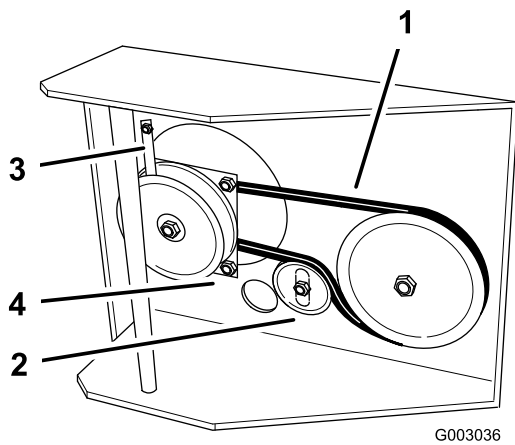

Figure 45
7. Unhook the clutch retainer from the clutch and remove the retainer (Figure 45).
8. Loosen the idler mounting bolt enough to move the idler pulley and remove the traction belt from the drive pulley and clutch (Figure 45).
10. Hook the clutch retainer into the clutch and secure it to the frame with the engine mounting bolt (Figure 45).
11. Torque pivot bolt to 170-220 in-lb (19-24 N·m) (Figure 45).